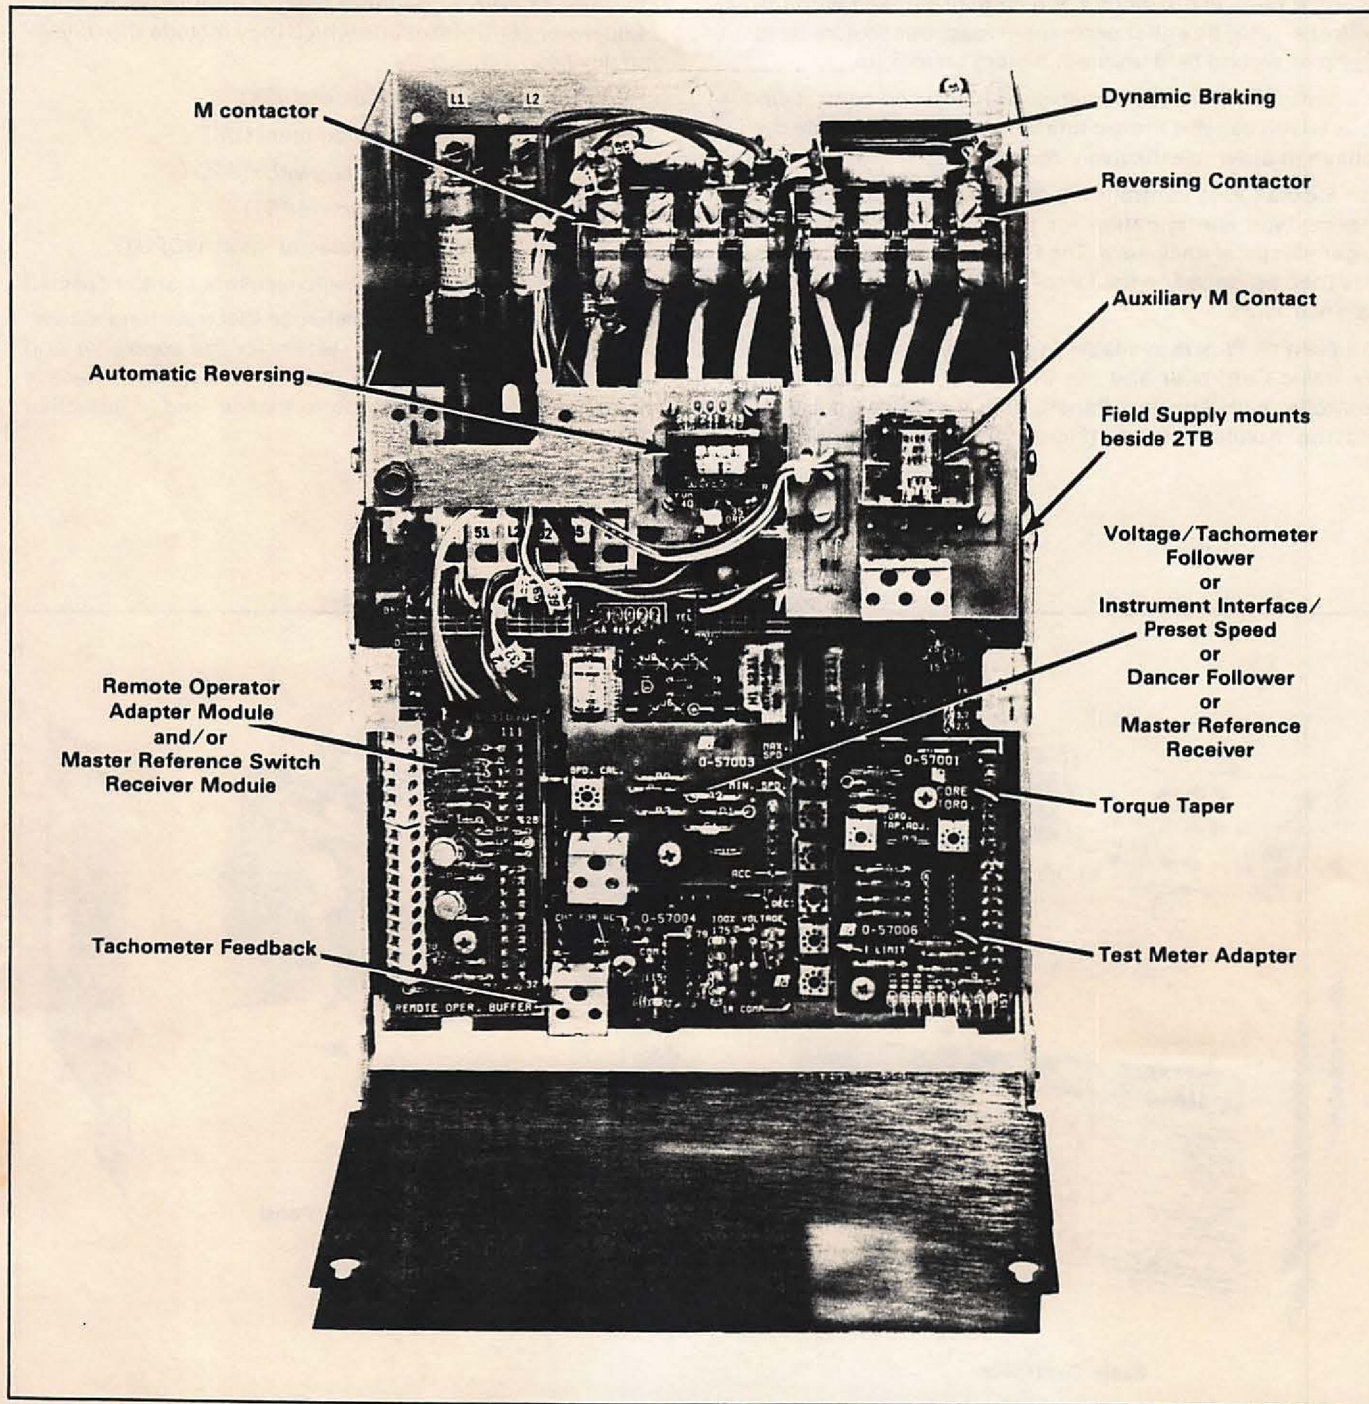

Figure 2.2 — FlexPak Plus Complete Controller with Modification Kits
**2.3 Modification Kits** — The basic capability of the controller can be quickly and conveniently extended with the use of a variety of optional Modification Kits. (Refer to Figure 2.2.) The Basic Controller modifications are: